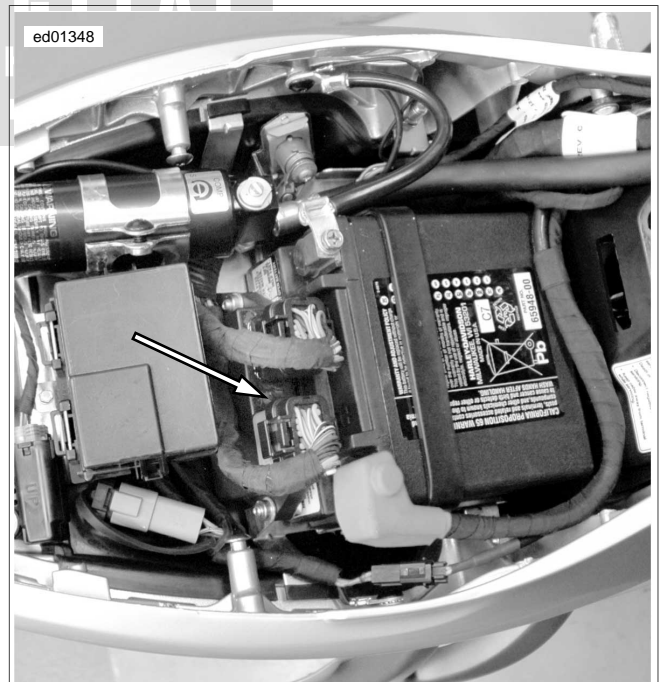

Figure 2-25. Electronic Control Module (Lightning)
1. See Figure 2-25. If the check engine lamp turns off when the black Electronic Control Module (ECM) connector [10] is unplugged, the (BK/Y) wire is not shorted to ground.